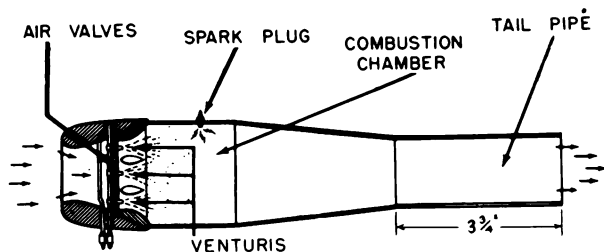

Figure 2E.—Pulse-jet engine.
Information for items 44 and 45: The jet engine shown in figure 2E develops 600 pounds of thrust when it is securely mounted in a test rack on the ground.
44. How many pounds of thrust should the engine shown in figure 2E develop when it is moving at a speed of 400 mph?
45. The pulse-jet engine shown in figure 2E must have a combustion chamber intake with a cross-section area of approximately